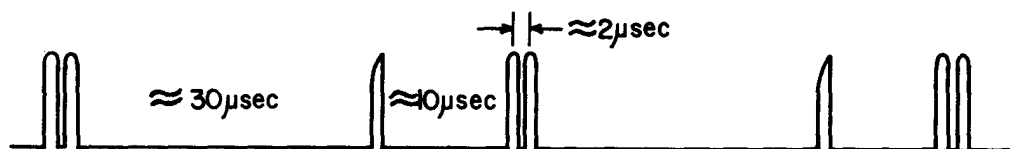

Figure 7-8. MEMWRT Pulse Pattern
To test to see if a paging IC is operating correctly at all possible addresses, Jumper U44-8 to ground. Load the 16KDT diagnostic test. Proceed to the Exerciser and enter F000 00 <CR>. Push all the switches to the up (ON) position. Put channel 2 of the scope on U45-12, (delayed MEMWRT) with the Exerciser running. Set the scope at 5 usec per division. Figure 7-8 shows the required pulse pattern.